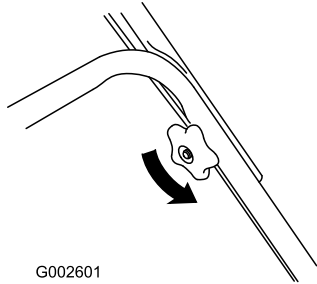

Figure 35
1. Loosen the handle knobs until you can move the upper handle freely (Figure 35).